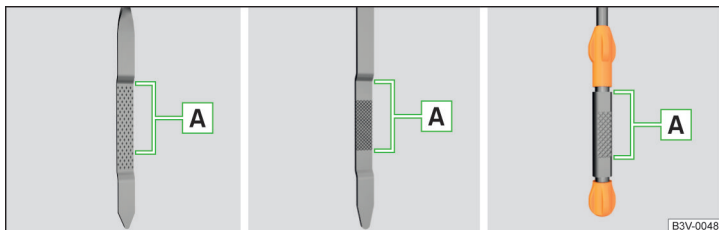

Fig. 230 Principle sketch: Dipstick
### Dipstick » Fig. 230
- The oil level must never be above the range **A** » Fig. 230 - risk of damage to the motor as well as the exhaust system.